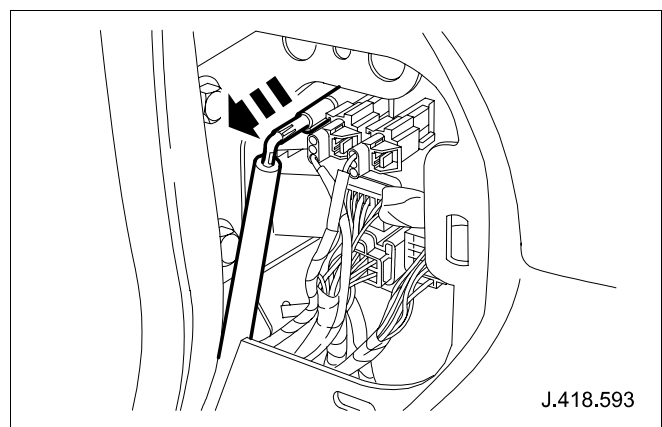

Fig. 22
- 77 Disconnect Jaguar antenna lead plug from Jaguar radio link lead socket. (See Fig. 22)